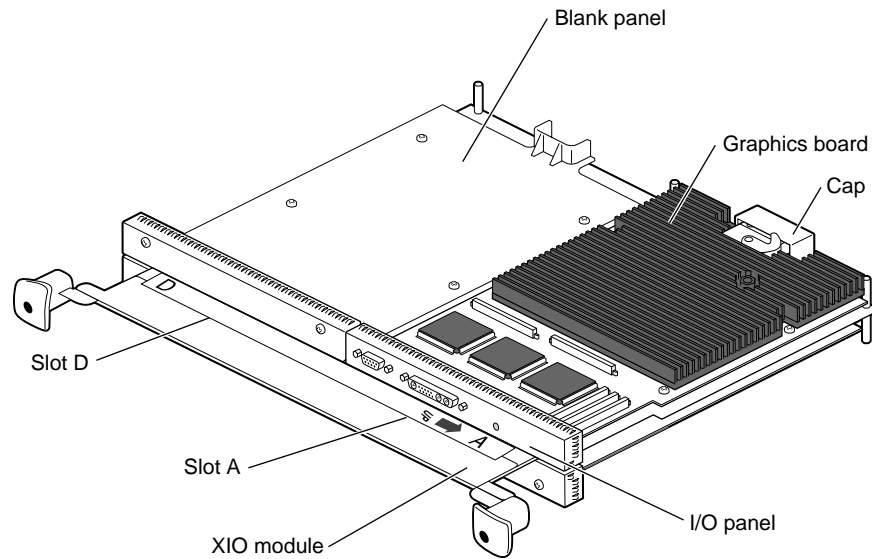

Figure 2-10 Placing the XIO Module on Its Side
The handle area protrudes when the XIO module is out of the chassis. When the handle is in this position, the identification slots for the XIO boards D and A (shown) and B and C are visible. See Figure 2-10.
6. Place a cap on the XIO graphics board compression connector. Spare caps come with the OCTANE workstation. See Figure 2-10.